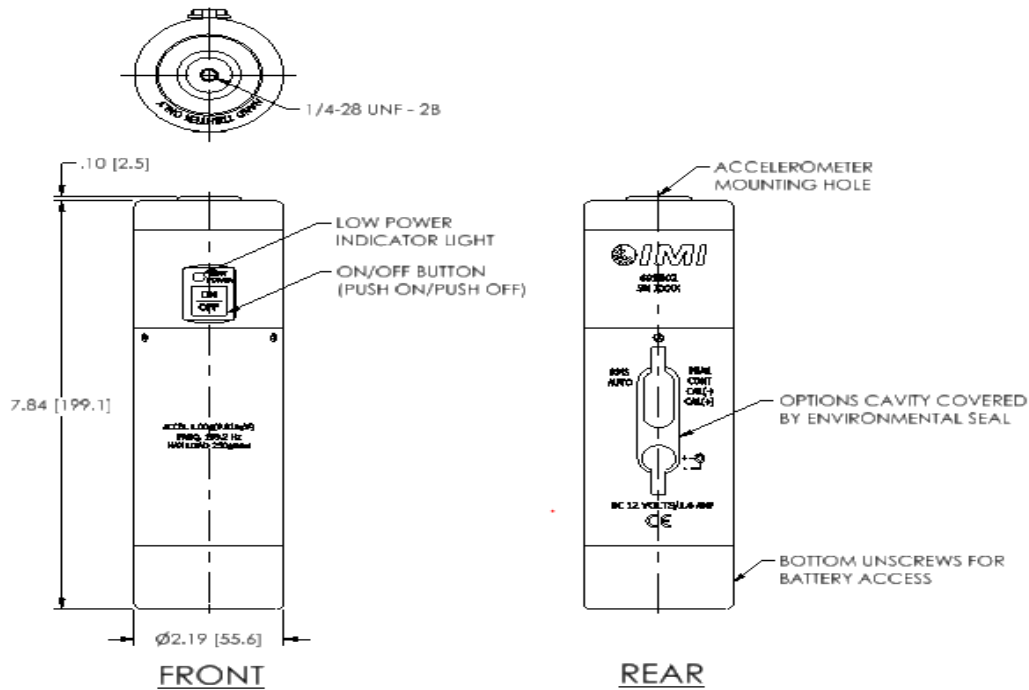

Figure 1: Model 699B02 Handheld Shaker
Model 699B02 permits accurate adjustment of measuring instrumentation to indicate a standard acceleration level of 1 g RMS or 1 g peak, adjusting the system for correct measurement. The reference signal may also be used for velocity and displacement, at 10 mms⁻¹ RMS or 10 mms⁻¹ peak and 10 μ m RMS or 10 μ m peak-to-peak respectively. To change between RMS and peak, depress the corresponding side of the rocker switch in the options cavity of the shaker. For example, to choose RMS, depress the left side of the rocker switch as per Figure 1.
Connect the accelerometer to the vibration level indicating instrument and activate the shaker by pushing the On/Off button on the side of the shaker. See Figure 1.
The indicating instrument may now be adjusted to read the relevant reference value. Following the system adjustment, the shaker is switched off by pressing the On/Off button a second time. To prolong the useful life of the batteries, Model 699B02 automatically switches off after 90 seconds. With new batteries, 80 sensitivity checks with maximum load are possible. To change between auto shutoff and continuous run, depress the corresponding side of the rocker switch in the options cavity of the shaker. For example, to choose auto shutoff, depress the left side of the rocker switch as per Figure 1.
- **Calibration Check Points:** Calibration of the internal feedback circuit can be verified via test points (located in the options cavity). See Figure 1. The measured value in volts AC should agree with the calibration certificate. This is useful for quick field check of unit integrity, such as that which might be needed if the shaker is dropped and a reference standard is not immediately available. This test is not a guarantee of shaker function. If the data does not agree with expected values, the shaker should be checked with a calibration standard before continued use.
- **Low Power Indicator:** A low power indicator light is located above the On/Off switch. See Figure 1. This light glows when the available power is marginally adequate to drive the shaker (with the mass on the shaker). This indicator does not signify erroneous data. If Model 699B02 cannot obtain 1 g at 159.2 Hz, then the unit shuts off. The low power indicator signifies an imminent inability to drive the mass on the shaker because the test sensor is too heavy, the batteries are low on power or the external power supply is inadequate.